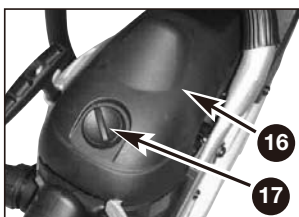

Fig. 15A
1. Remove knob **17** holding air filter cover in place, remove the top cover **16** by loosening the cover retaining screws. Cover will lift off. (Fig. 15A)